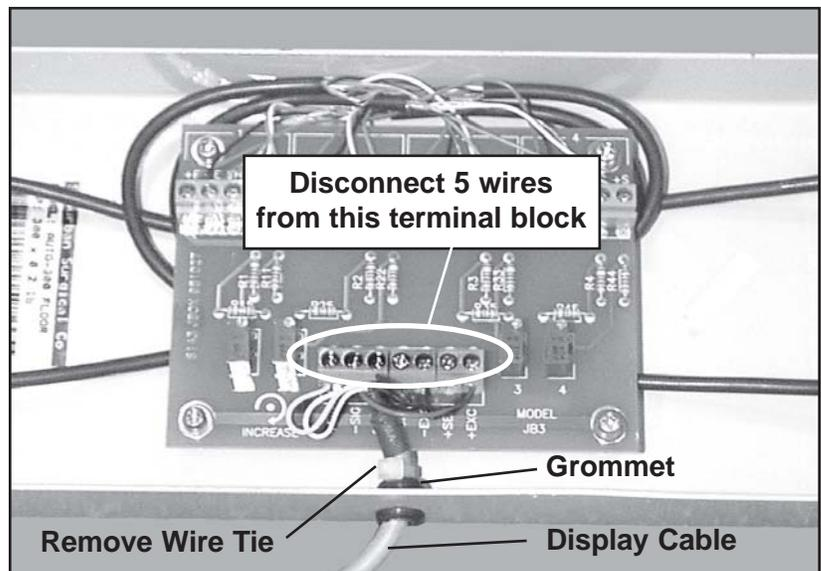

Figure 44. Summing Board
6. With a small wire cutter, snip off the wire tie on the cable where it nears the summing board (Figure 44).
1. Slip the wires and the end of the cable through the grommet next to the summing board in the platform frame (Figure 44).